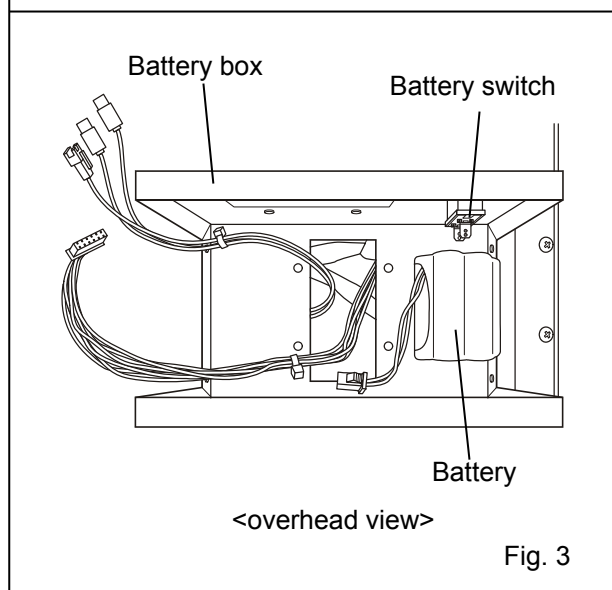

Fig. 3
3. Pass the harnesses through the bottom opening of the battery box and set the battery box on the right front of the refrigerator top so that 4 screw holes can be aligned. [Fig. 3]
4. Put the battery on the right of the battery box. [Fig. 3]